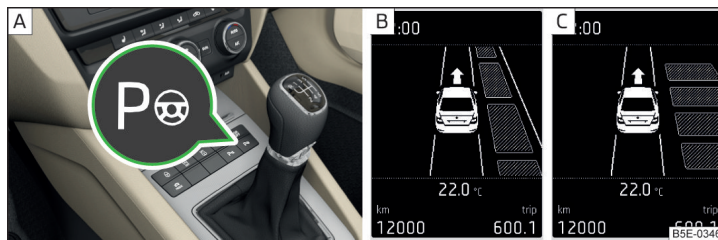

Fig. 140 System button / display
When the system is activated, the warning light lights up **P** » Fig. 140 on page 142 - **A**.
- Press the symbol button **once** **P** » Fig. 140 .
The display shows » Fig. 140 - **B**.
- Press the symbol button **twice** **P** » Fig. 140 .
The display shows the following » Fig. 140 - **C**.
- Press the symbol button » Fig. 140 on page 142.